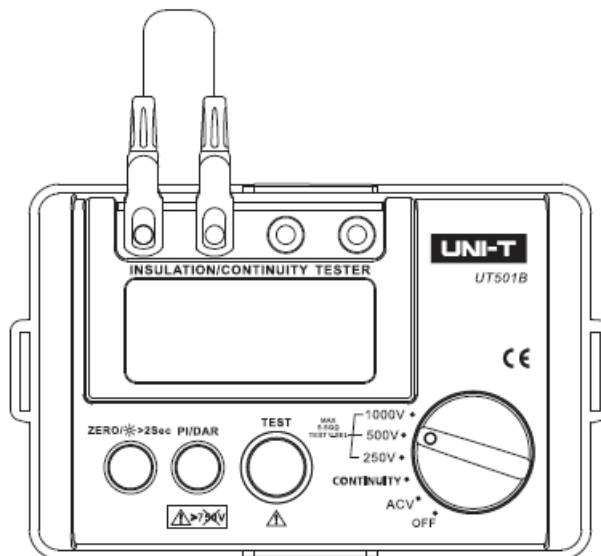

Figure 4
* Do not measure when the battery cover is opened. In order to check whether the measurement values are accurate or not, UT501B has been designed with a 10M resistor. The resistor offers 1% accuracy for self – check internally. Refer to the wiring operation as follows: (See Figure 4)
Operating instructions: connect wire as indicated in the figure 4, then switch to any insulation measurement range, press down TEST button, LCD will display the value 10.0M 2.